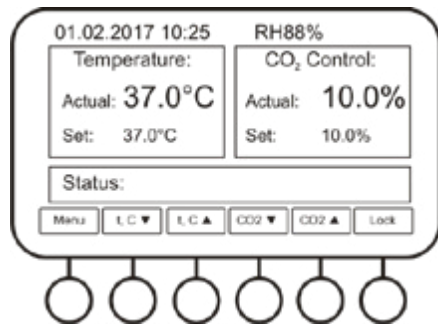

Fig. 1. Working screen
4.2. After initialization, display (fig. 1) shows: